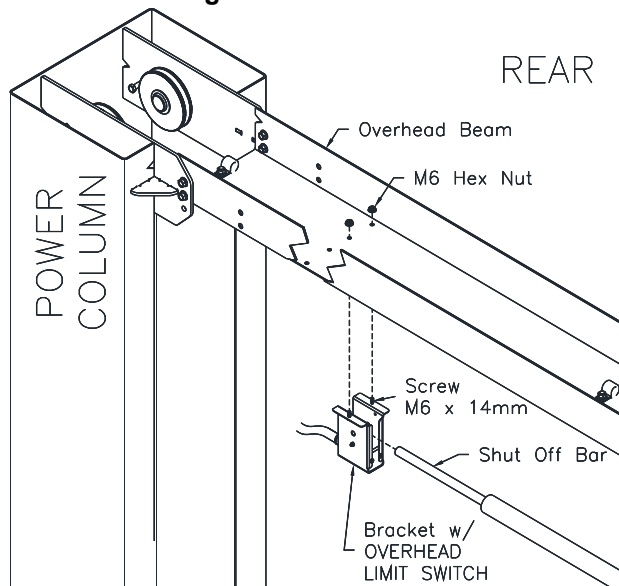

Fig. 7 – Overhead Limit Switch Power Side
- 27) Install Overhead Limit Switch to the Overhead Beam using the rear set of holes on the Power Side of the lift. **Fig. 7.**